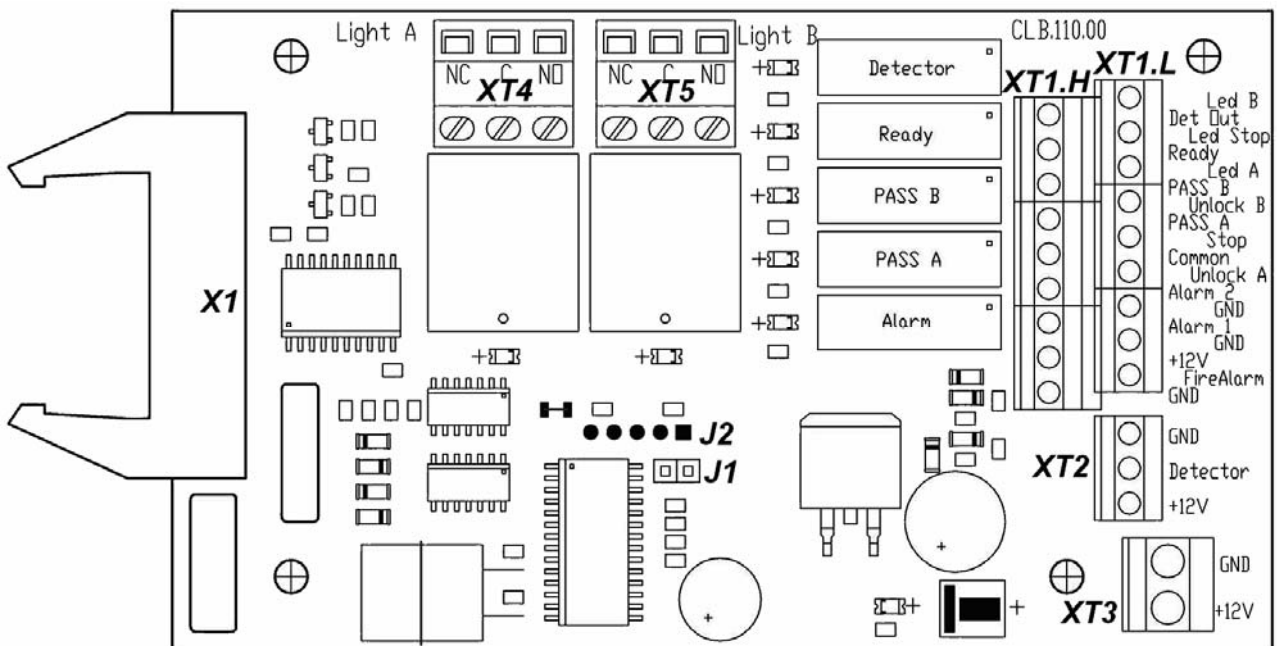
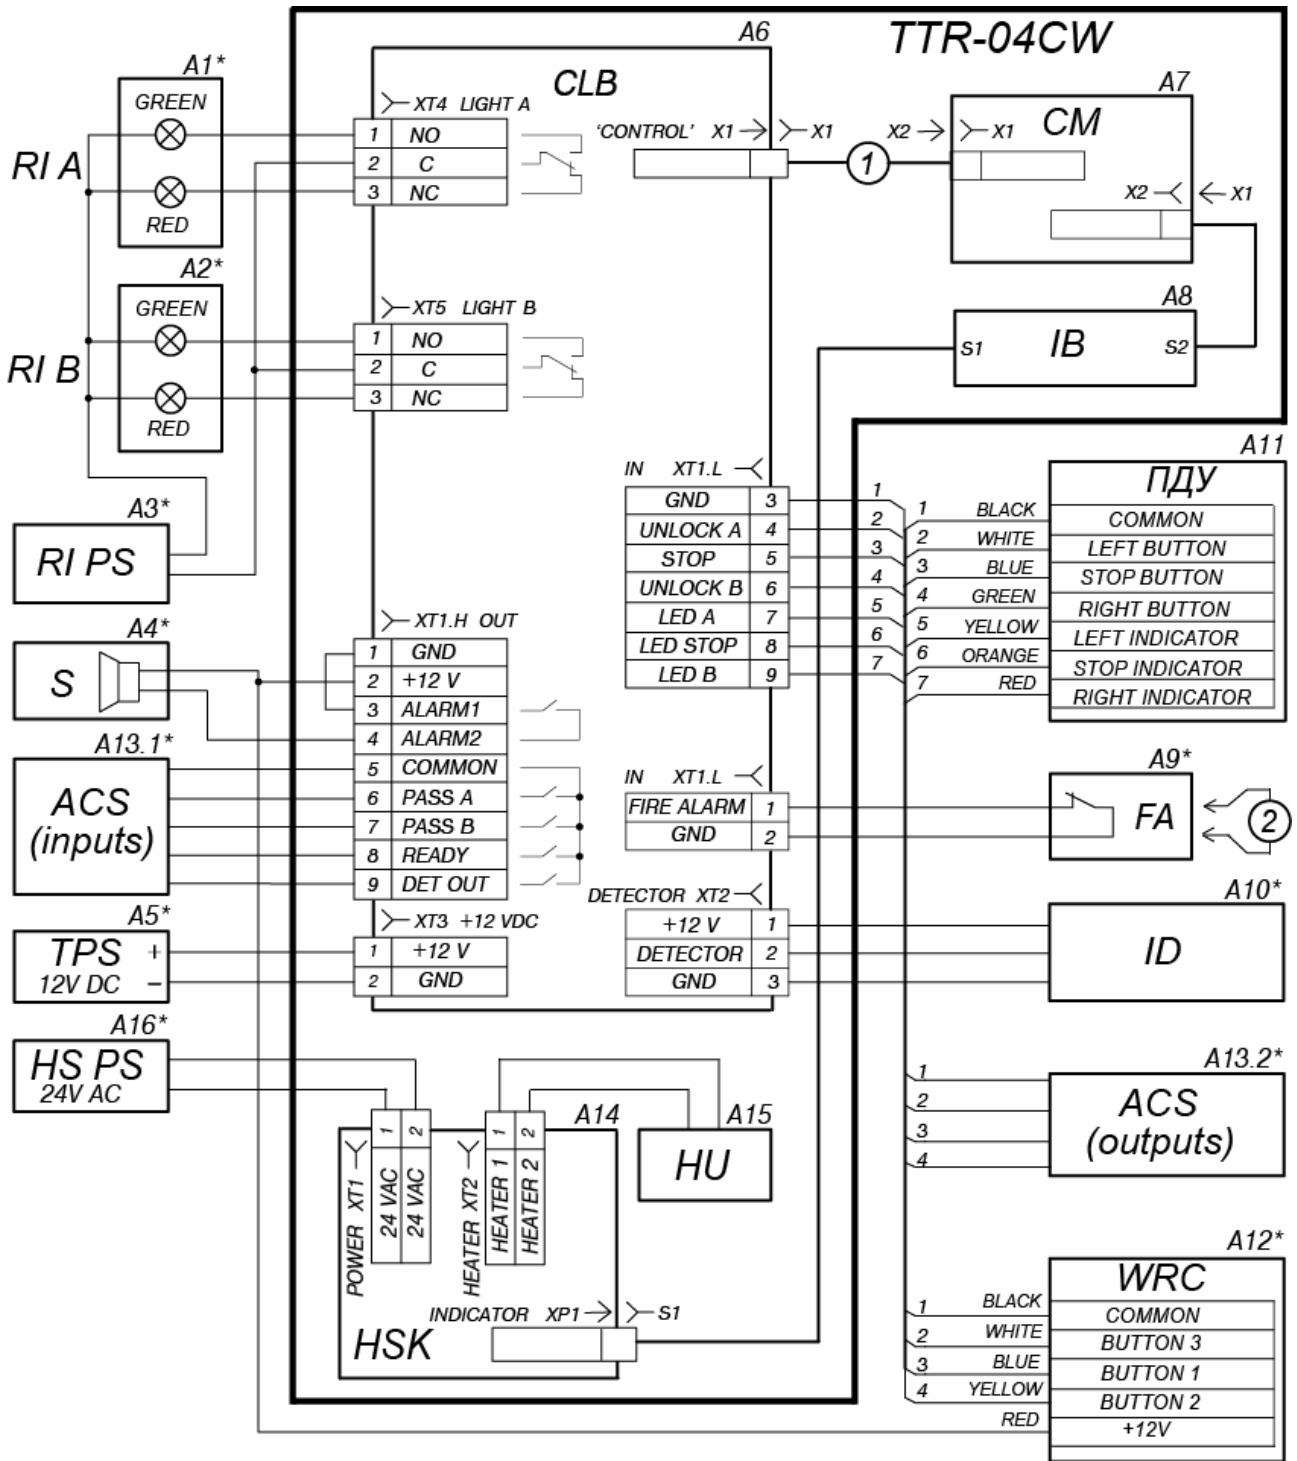

Figure 5. Control Logic Board (CLB)
Figure 6. Connection layout
5.2.3 The RC panel/ WRC/ ACS controller (10) and the turnstile power supply unit (8) are connected to the CLB with the cables (9 and 11) in accordance with the connection layout (see Fig. 6).
The RC panel is connected to the CLB with a multicore cable (6) via the “XT1.L” connector block (Ref. Fig. 5 and 6).
If the turnstile orientation relatively to the operator’s terminal is not standard (e.g. the terminal is placed at the backside of the turnstile housing), the RC panel orientation towards the turnstile can be changed by exchanging places of the RC wires to the contacts *Unlock A* and *Unlock B* as well as contacts *Led A* and *Led B* accordingly (see Fig. 5 and Fig. 6).
5.2.5 The CLB (Fig. 5) contains:
Table 1. Legend to Fig. 6
5.3.2 Connection of the devices stated in Clause 5.3.1 is made with the cable (11) to the corresponding connector blocks *XT1.L* or *XT1.H* of the CLB in accordance with the connection layout (Fig. 5 and 6).
5.3.7 Pin assignments of the CLB connector blocks are given in Fig. 5 and on a label located on the inner surface of turnstile cover (2) with LED indication display (2).
5.4.3 The relays *PASS A* (contacts *PASS A* and *Common*), *PASS B* (contacts *PASS B* and *Common*), *Ready* (contacts *Ready* and *Common*), *Detector* (contacts *Det Out* and *Common*) and *Alarm* (contacts *Alarm 1* and *Alarm 2*) have normally open contacts. The *Common* contact, at that, is not connected to the CLB power supply negative terminal. In the initial (inactive) state, when the power is on, the relay contacts *PASS A*, *PASS B*, *Ready* and *Detector* are closed (voltage is supplied to the relay coil) and the *Alarm* relay contacts are broken (voltage is not supplied to the relay coil). The CLB relay operation/release is indicated by lighting up/going down of the red test indicators located near the corresponding relays (Fig. 5).
5.5.2 The control mode is set by the jumper on the J1 connector (the J1 connector location is shown on Fig. 5 and on a label located on the inner surface of turnstile cover (2): the jumper is fixed — the pulse control mode, the jumper is not fixed – the potential control mode. The jumper is fixed at the factory before the delivery.